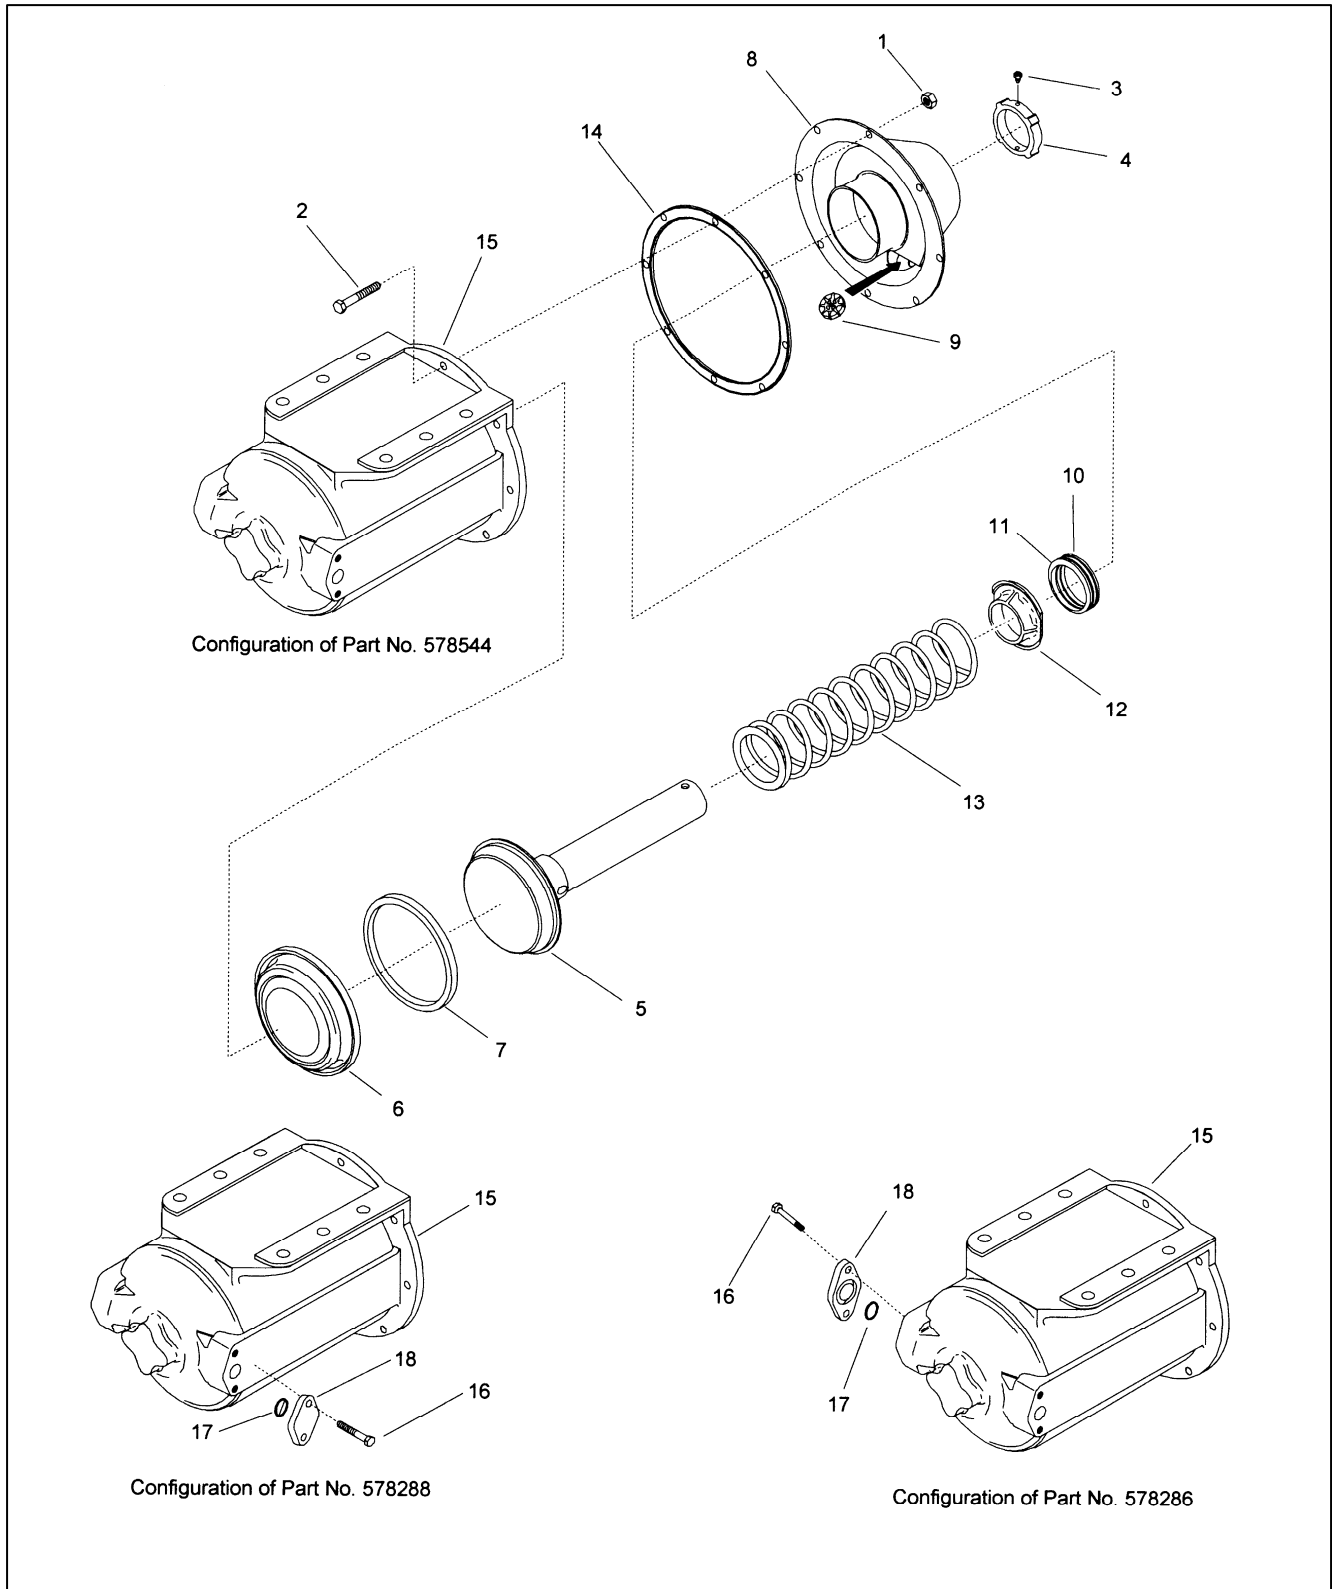

Figure 1 – Part Nos. 578286, 578288 & 578544
**ABU TYPE 10" X 12" BRAKE CYLINDERS - Figure 1**